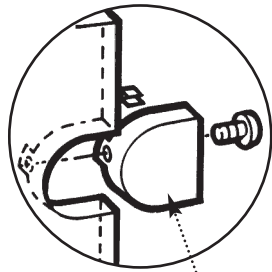

Fig. 91
3. If the appliance is flued to the left or to the right, remove the relevant infill panel by removing the retaining clips and fixing screws (Fig. 91).